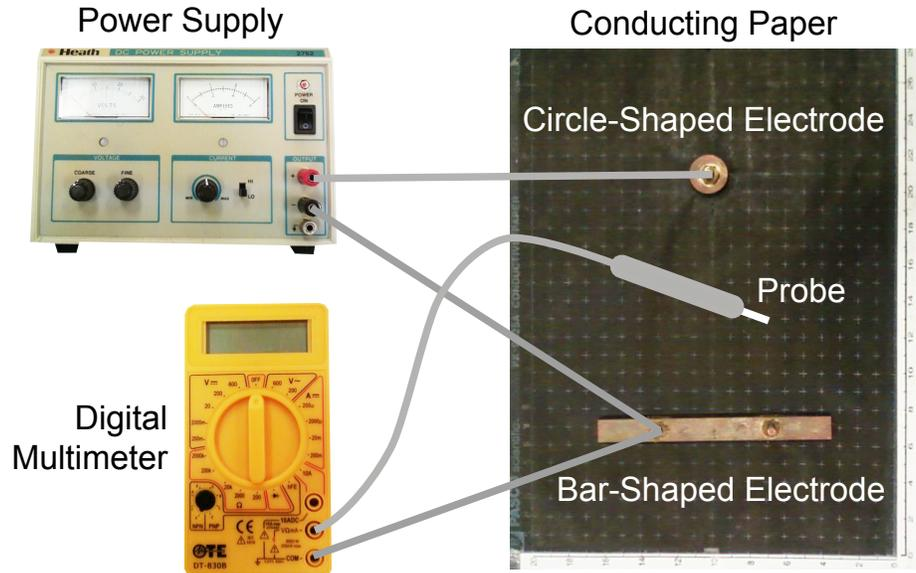

Figure 2.1. Electrical connections.
2. Connect the positive terminal (red jack) of the power supply to the circle-shaped electrode on the conductive paper, as shown in Figure 2.1. This will produce a net positive charge on the circular electrode. Connect the negative terminal (black jack) of the power supply to the bar-shaped electrode on the conductive paper. This will produce a net negative charge on the bar electrode. Use “alligator clips” to connect the wires from the power supply to the electrodes. This configuration simulates the electric field between a positively charged rod and a negatively charged plate.
5. Now fine tune the adjustment of the power supply by: (1) touching the probe to the circle-shaped electrode, and (2) turning the FINE voltage control knob on the power supply until the voltage reading on the DMM lies between 4.90 and 5.10 V, making sure that the reading is stable. Once set, this voltage should remain constant for the mapping of all the equipotential lines for a given electrode configuration. Check it from time to time as you make your map,